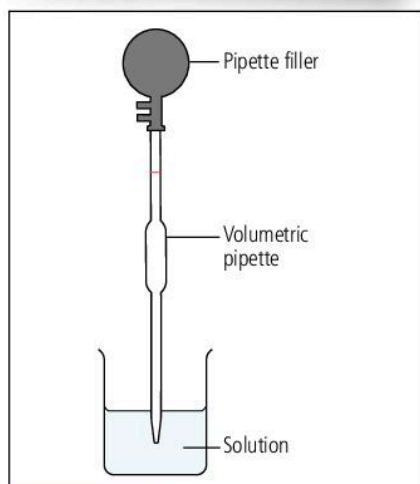

Figure 7.6.1 Filling a volumetric pipette
- 1 Measure a known volume of potassium hydroxide solution (alkali) into a titration flask using a volumetric pipette (see Figure 7.6.1).